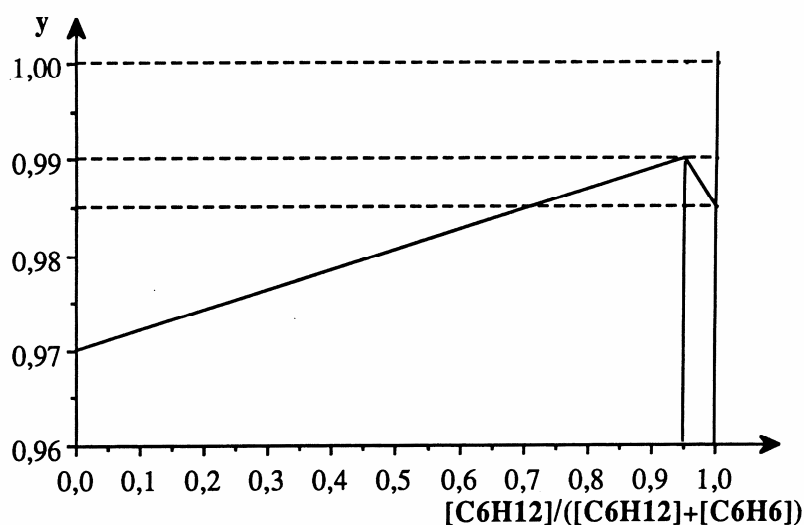

Fig. 3
The relationship between  $p$  and  $Y$  is shown in Fig. 3.
- 7.3** Represent by grey shading in the graph (Fig. 3) the quantities of benzene lost in installation P (plug flow reactor) and installation MP (stirred reactor + plug flow reactor).